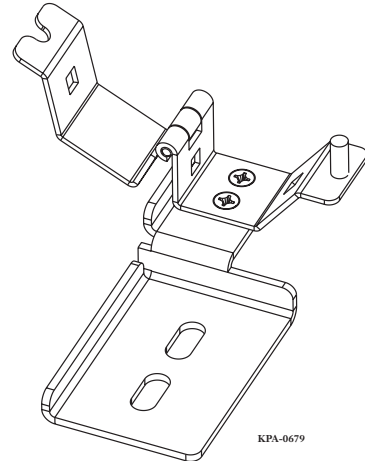

Figure 2 — Attach UCC to Mounting Bracket
Step 2: Attach the UCC to the mounting bracket per the instructions provided with the UCC (Figure 2).